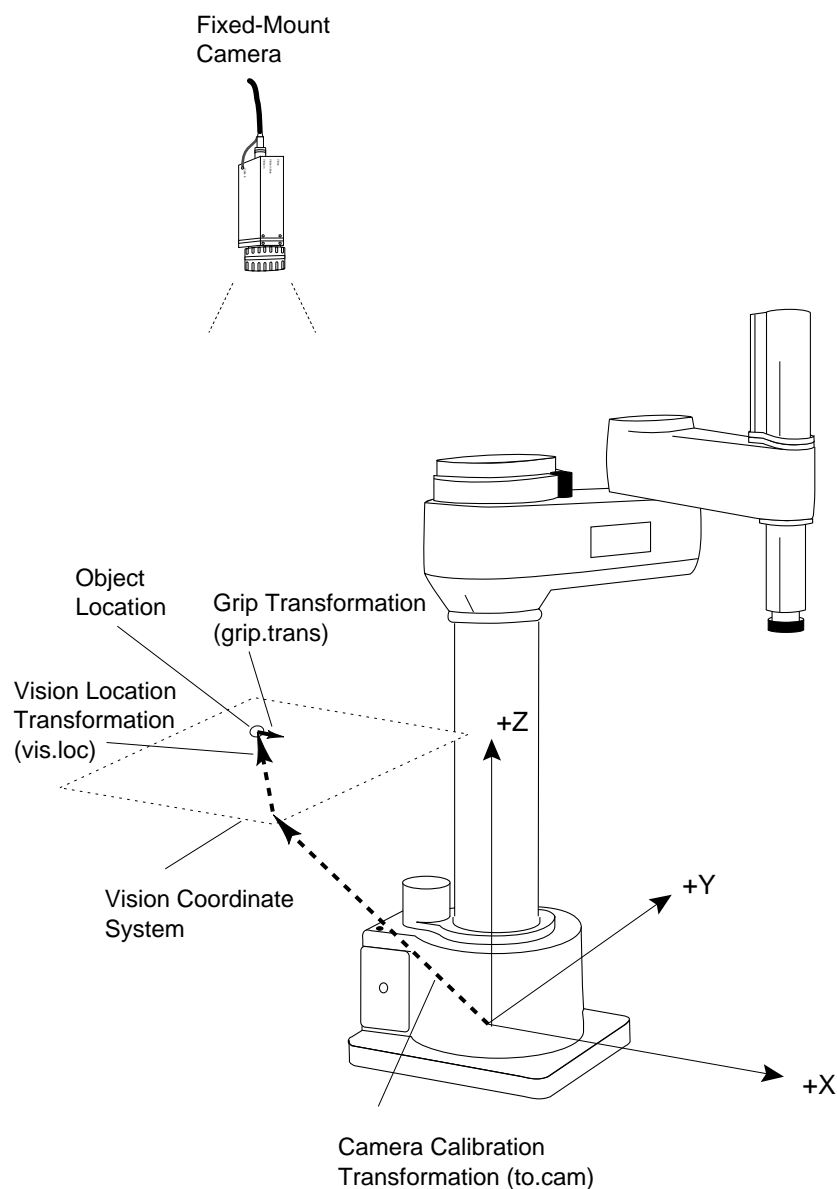

Figure 14-1. Fixed-Mount Camera (Vision Location)
One element of the camera-to-robot calibration relates the vision coordinate frame (see Figure 14-1) to the world coordinate system of the robot. The vision system returns X and Y coordinates and RZ rotation defining the location and orientation of an object with respect to the vision coordinate system. This information is combined into a transformation value that represents an object's location in world coordinates. This section describes how to use the two most common camera mountings: fixed-mount camera and cameras mounted on the second link of several common robot types. Additional camera mountings are described in the camera calibration user's guide.
**Figure 14-1** shows the components of the vision transformation, **`to.cam`**, **`vis.loc`**, and **`grip.trans`**.